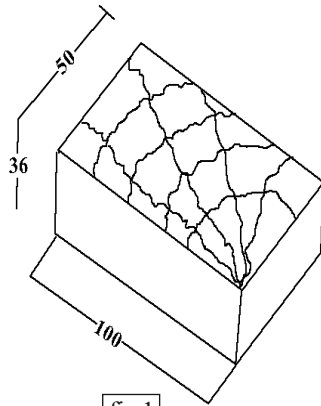

fig 1
- i. Layout, marking, sawing & planing as shown in figure 1.